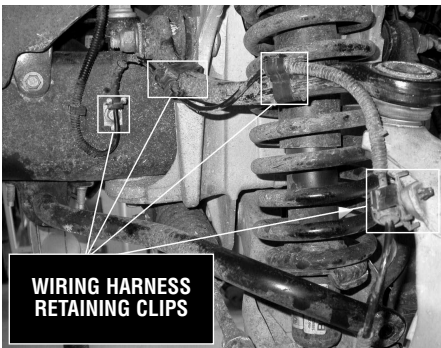

FIGURE 1
6. If the vehicle is equipped with ABS, disconnect the wiring harness from the upper control arm and frame (SEE FIGURE 1).